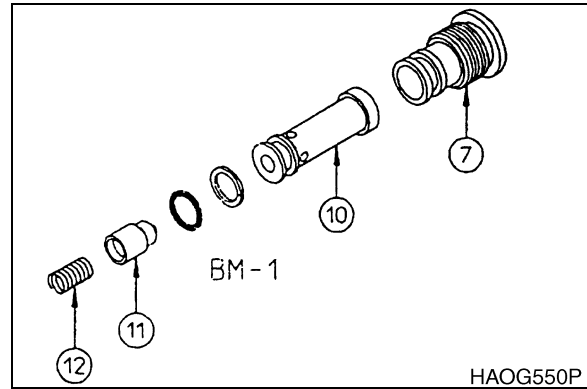

Figure 65
BM-1: Remove cap (7, Figure 65), O-ring, backup ring, sleeve (10), check valve (11) and spring (12).